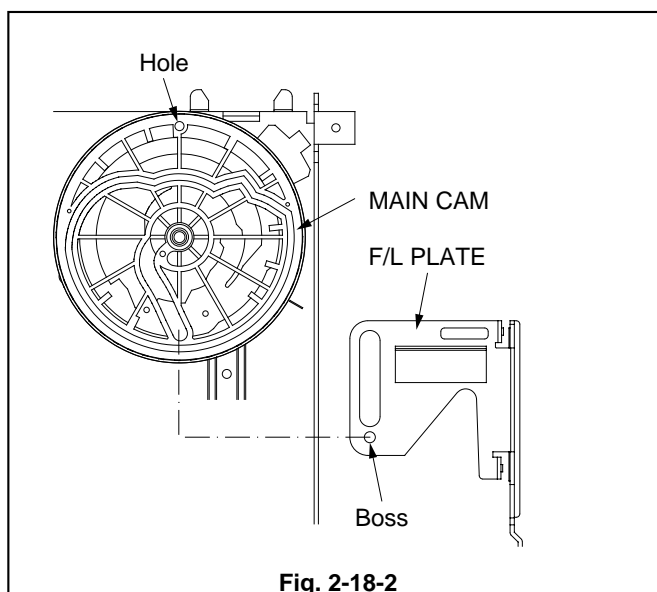

Fig. 2-18-2
6. Match the Hole in the MAIN CAM with the Hole in the MAIN PLATE ASSY shown in the Fig. 2-18-2.
8. Insert the Boss of the F/L PLATE shown in the Fig. 2-18-2 into the Groove of the MAIN CAM.